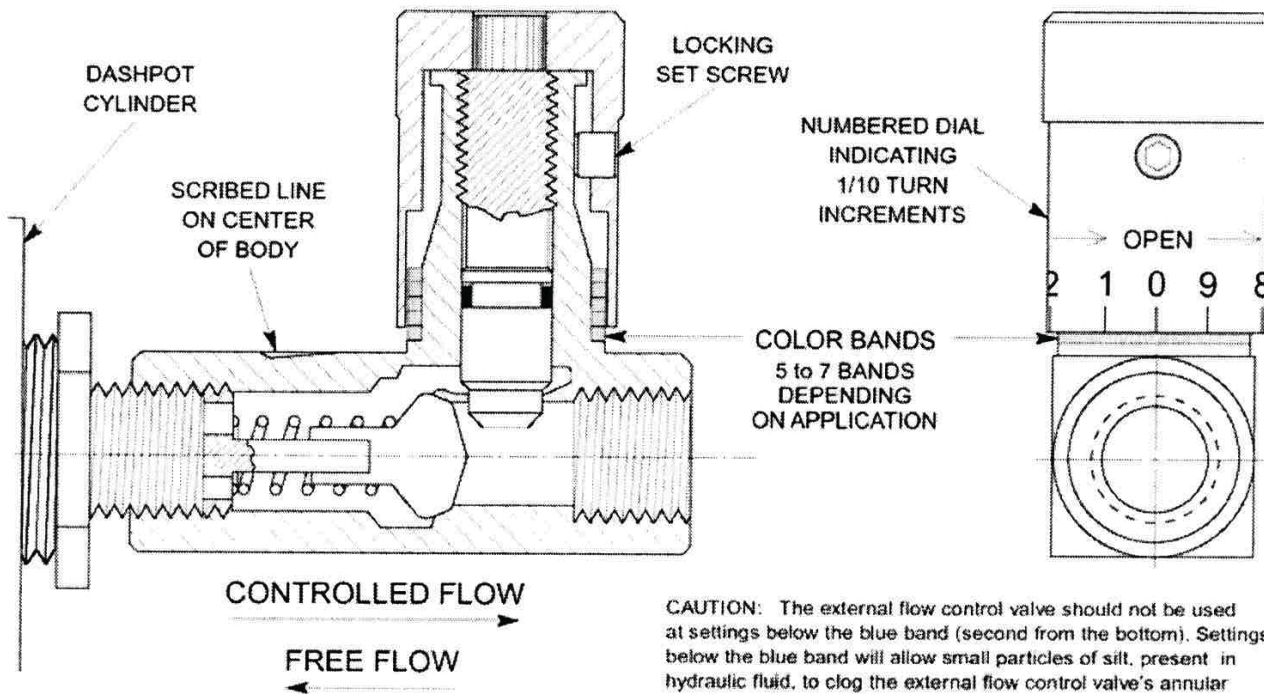

Figure 3 - Flow Control Valve
7. If pressure surging is observed on the valve opening or if water hammer noises exist on valve closure, the appropriate external flow control valve can be gradually turned to a smaller number setting until optimum valve operation is achieved. See Figure 3. The unit is designed to control the operating time between 5 and 30 seconds.